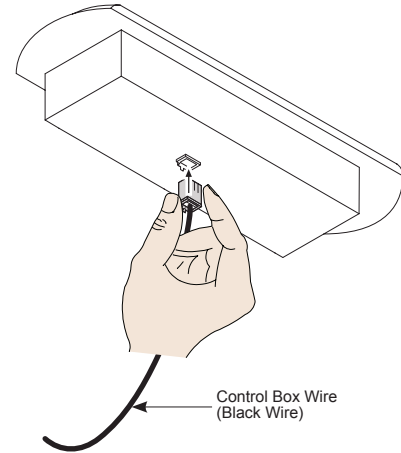

Figure 4 - Control Panel
- 1** Insert the wire connector into the back of the control panel (Figure 4).